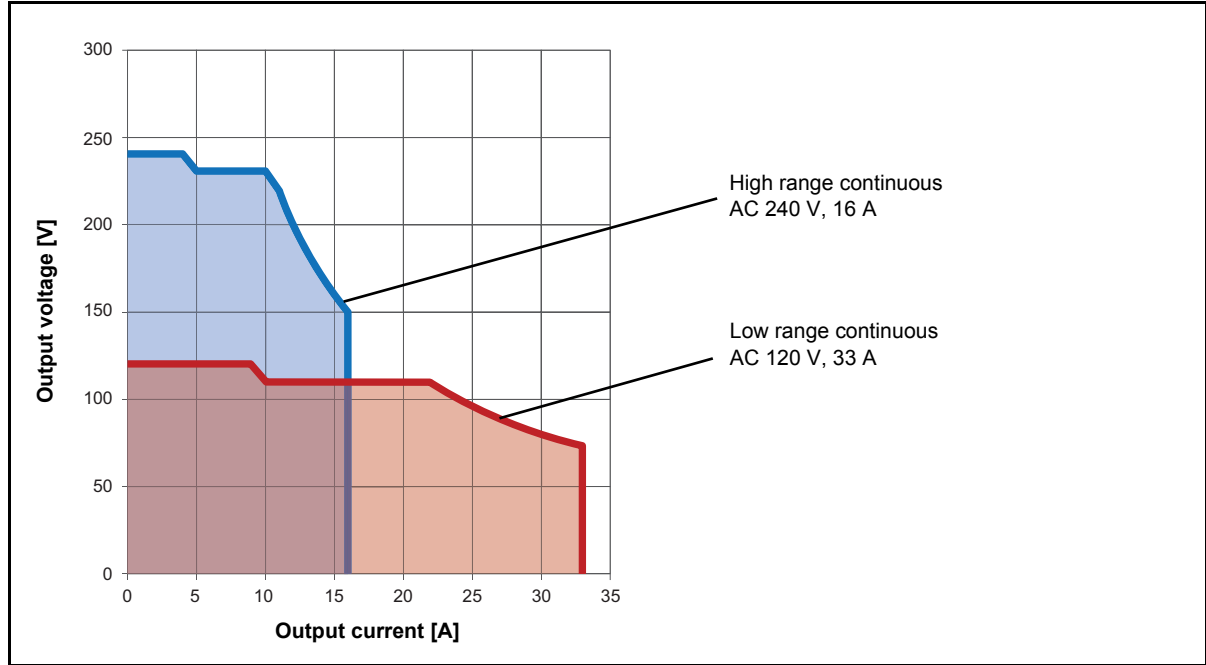

Figura 1-2: Permitted operating range 1 x AC 240 V 16 A
5. See Figura 1-2: "Permitted operating range 1 x AC 240 V 16 A" en la página 6
4. See Figura 1-2: "Permitted operating range 1 x AC 240 V 16 A" en la página 6